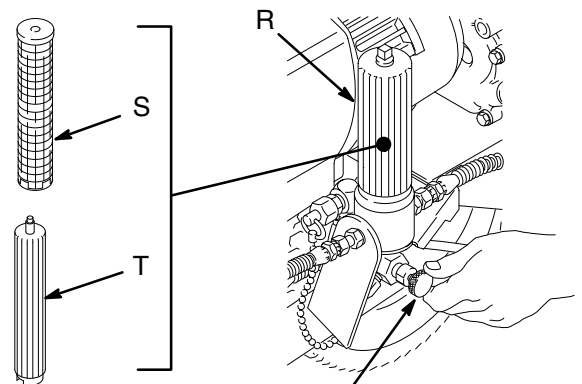

Fig. 5
2. Remove the filter bowl (R) and screen (S); see instruction manual 307-273, supplied. Install the bowl and support (T), without the screen, to flush. Clean the screen separately. See Fig. 5.
3. Close the pressure drain valve (53).